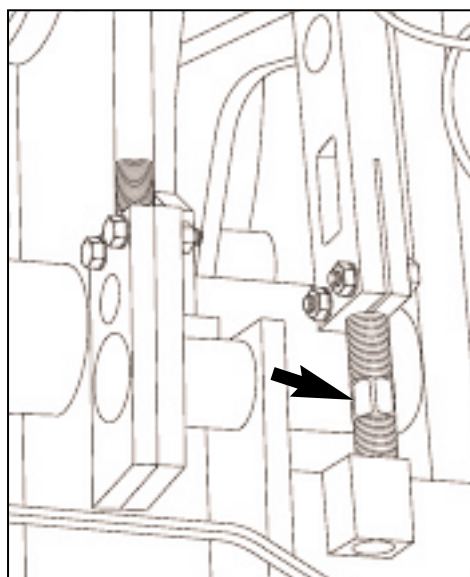

Figure 5.38 STRIPPER HEAD LINK (RIGHT SHOWN).
- 5.9.4 If adjustment is needed, adjust the right hand stripper head adjusting link (clockwise for more, counterclockwise for less); keep an accurate count of how many flats you turn the right hand link (see figure 5.38).